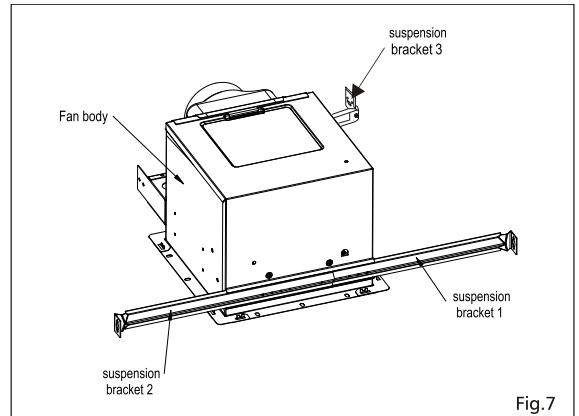

Fig.7
2. Insert the suspension bracket I and II into the fan body and suspension bracket III into the adaptor. (Select the suspension bracket connection holes as shown below) (Fig.7, Fig.8)